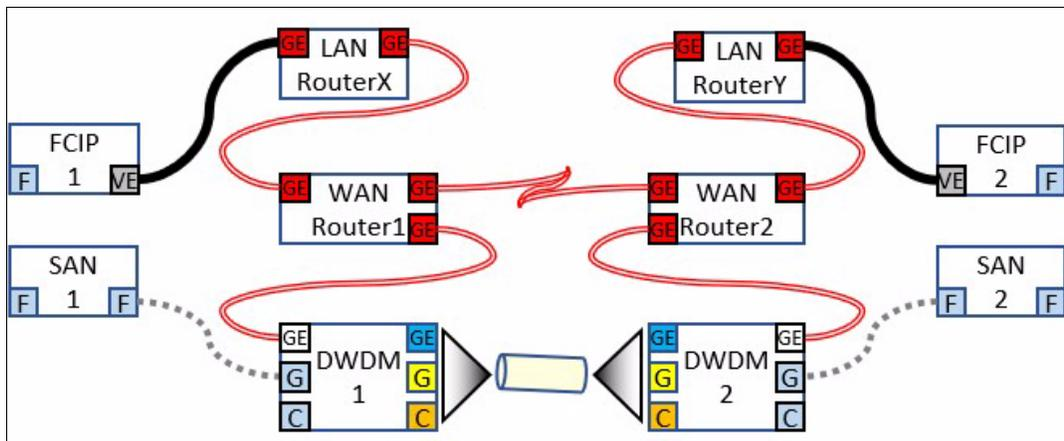

Figure 5-28 Storage replication: Global Mirror over FCIP
Global Mirror (GM) is asynchronous replication that also is configured and managed by the CUs. Asynchronous replication can have a delay before new source data updates are reflected in the remote device. FCIP or DWDM systems extend the distance beyond the limit of an ISL, as shown in Figure 5-28.